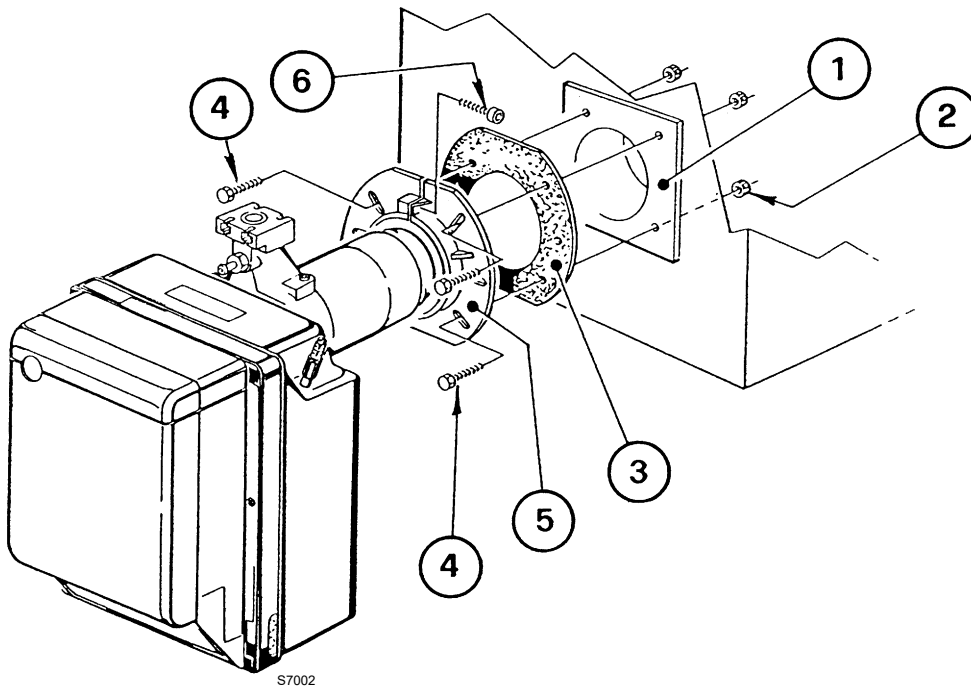

Fig. 12
- Fix the flange 5) to the door of the boiler 1)(Fig. 12) placing the insulating gasket 3) in between using the screws 4) and (if necessary) the nuts 2), but keeping one of the two top screws 4) loose.